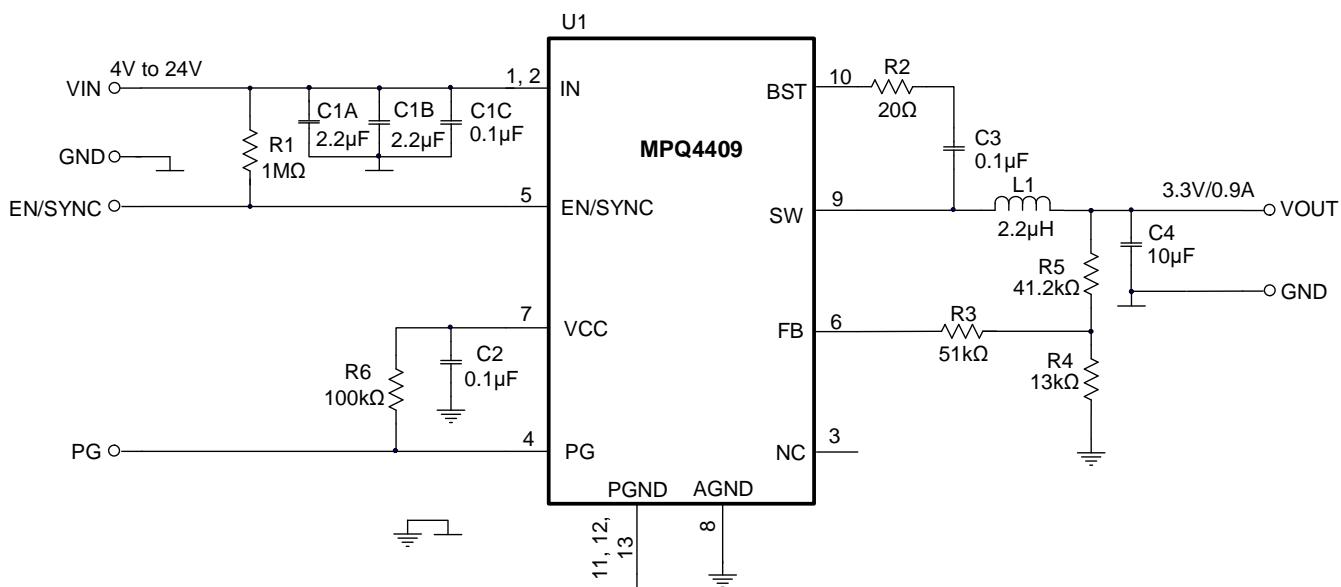

Figure 8: Typical Application Circuit, $V_{OUT} = 3.3V$, $I_{OUT} = 900mA$
8) The recommended layout is based on Figure 8.